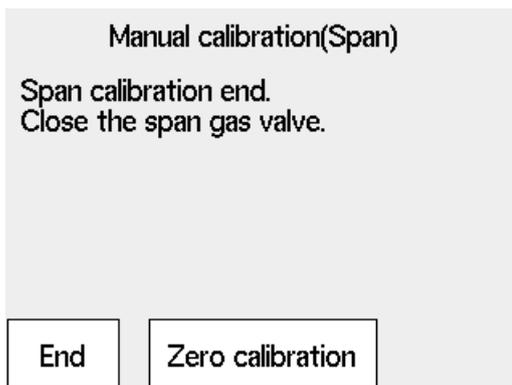

Figure 6.19 Span Calibration Complete
- (5) After the measured value has stabilized, press the [Enter]. The screen of Figure 6.19 appears. At this point, the measured value is corrected to equal the span gas concentration setting. Close the span gas flow valve. The valve lock nut should be tightened completely so that the span gas does not leak.